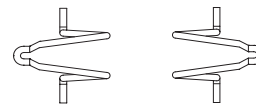

Fig. 42
- Pair of connector retention clips HZZ01209-G; see fig. 42